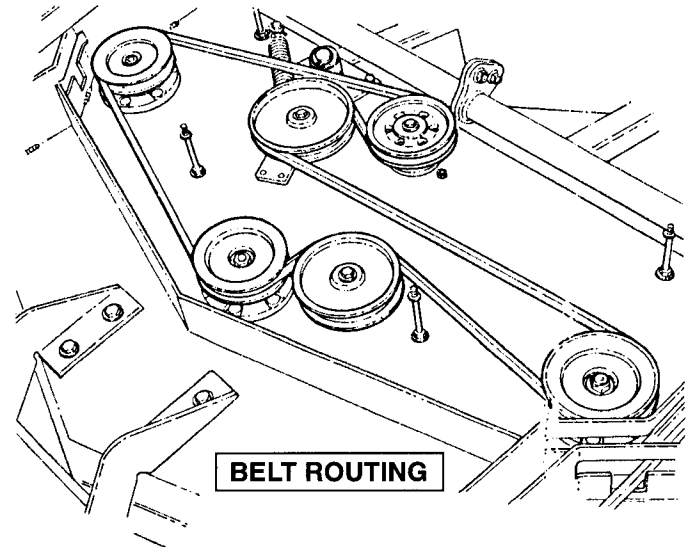

FIGURE 8.5
6. Route new Belt around Blade Pulleys and Idler Pulley in the same position as old Belt was removed. It may be necessary to use a pry bar to pull Idler Pulley back to install Belt. See Figure 8.5.